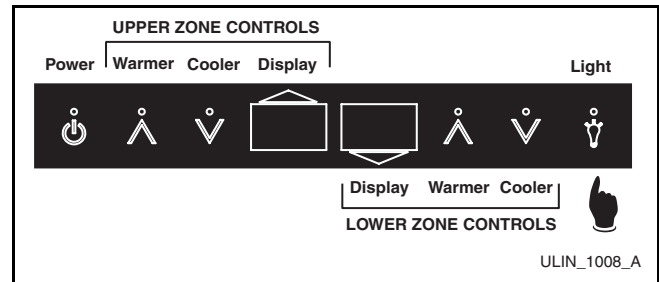

Figure 3. Interior Lighting Off
The LIGHT icon (Figure 3) on the control panel is used to change the lighting functions.
1. Touch and hold the LIGHT icon (Figure 3) for ten seconds.
1. Touch and release the LIGHT icon (Figure 3) to switch from door-operated lighting control to continuous lighting.